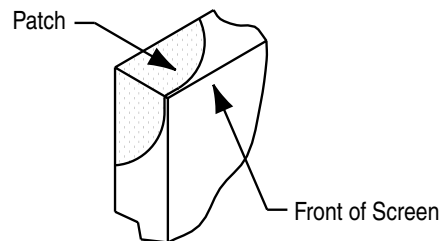

Figure 4
- ④ Remove frame from wall by pushing upward until the bottom frame section hits the lower wall brackets. The top frame section should clear the studs of the upper brackets; pivot the top of the frame away from the wall until frame drops down in front of these brackets. The bottom of the frame will then be disengaged from the lower wall brackets. Set frame aside.
- ⑤ Make sure your hands are clean before touching the viewing surface.
- ⑥ Remove the viewing surface from the cardboard tube. Unroll the surface from the small cardboard tube. **NOTE:** Be extremely careful to protect the viewing surface by making sure it is unrolled onto a clean cloth or paper.
- ⑦ Place the frame with snaps facing up onto the viewing surface, centering it as much as possible. Be sure to match the top of the frame with the top of the viewing surface. Starting at the corners, wrap surface around the frame and snap onto the back of the frame. Then snap the remaining snaps along frame sides. Viewing surface should completely cover the front of the frame. The side of the castings at each corner may be slightly visible due to viewing surface elasticity. It may be necessary to unsnap a portion of the surface to get the proper coverage at the corners. Pull the surface in the desired direction and snap it on the frame. After the surface has been adjusted (if necessary) and completely snapped onto the frame, peel off the liner on the corner patch and place it on the screen fabric at each corner to conceal any gap (see Fig. 4). These patches may not be necessary if outside edges of screen are not visible after installation.